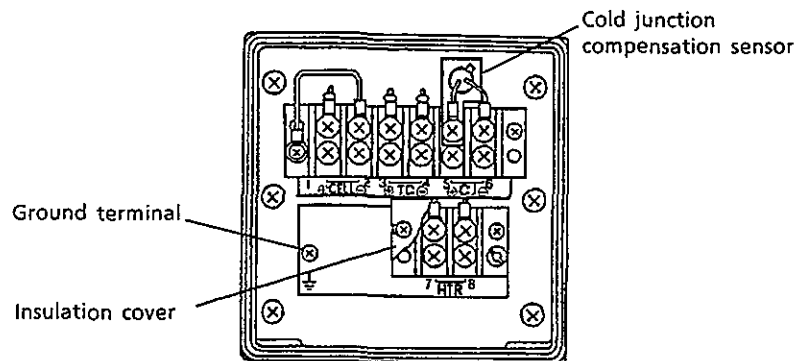

Figure 5.4 Layout of Detector Terminals
- (1) The diameter of the cable bushing hole in the detector is  $\varnothing 27$  mm. Protect the cable by using a flexible wire conduit of a nominal diameter of 19 mm. The detector may need to be removed in the future for maintenance, so be sure to allow a sufficient cable length.
- (2) If the ambient temperature at the wire installation site is 80 to 150°C, be sure to use a flexible metallic wire conduit. If a non-shielded "600 V silicon rubber insulated glass braided wire" is used, avoid picking up external noise by separating the wire from noise sources.
- (3) Figure 5.4 shows the layout of the detector terminals.